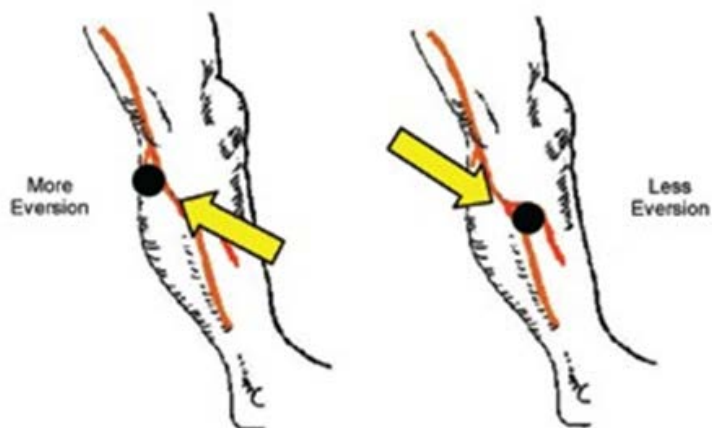

Figure 23: In General, the Posterior Black Electrode Determines the Direction of the Foot Lift
- Generally, shifting the Black electrode more posterior and superior elicits more eversion and shifting the Black electrode more anterior and inferior elicits more dorsiflexion (Figure 23).